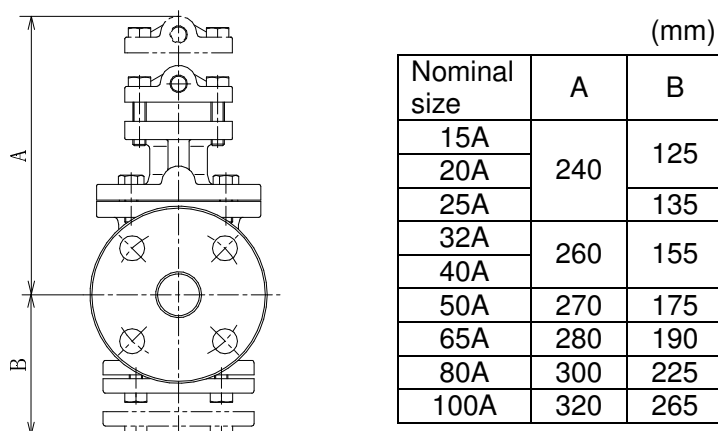

Fig.1
- (1) Install the valve perpendicularly to horizontal lines.
- (2) Provide the by-pass line. (See 6.1 Example of piping)
- (3) When the pressure reducing ratio is large, install a reducer to keep the flow velocity in the pipe below 30 m/s or less.
- (4) Provide space on the top and bottom of the valve so that the valve can be easily disassembled and inspected. (See Fig.1)